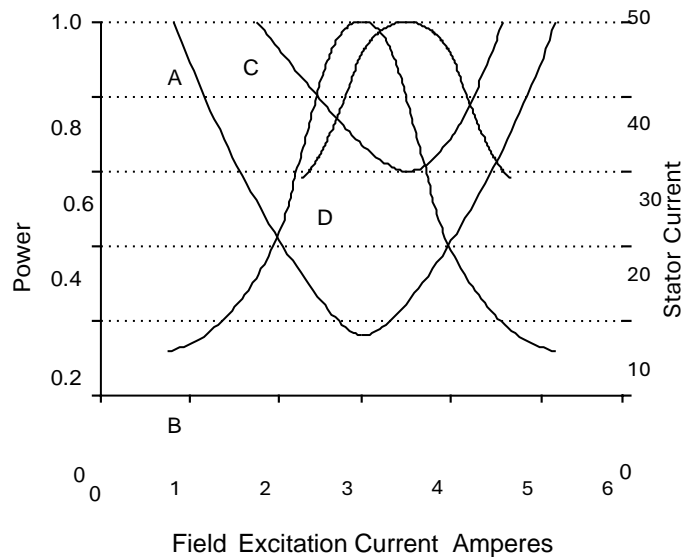

Figure 1
1. For the curves drawn for a three phase synchronous motor shown in Figure 1:-